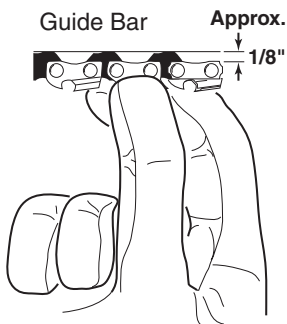

Figure 5 - Correct Chain Tension
4. Pull chain away from the bottom of the bar approximately 1/8 inch (links should not come out of guide bar groove) and let go. The chain should return to rest against the guide bar rail (see Figure 5).